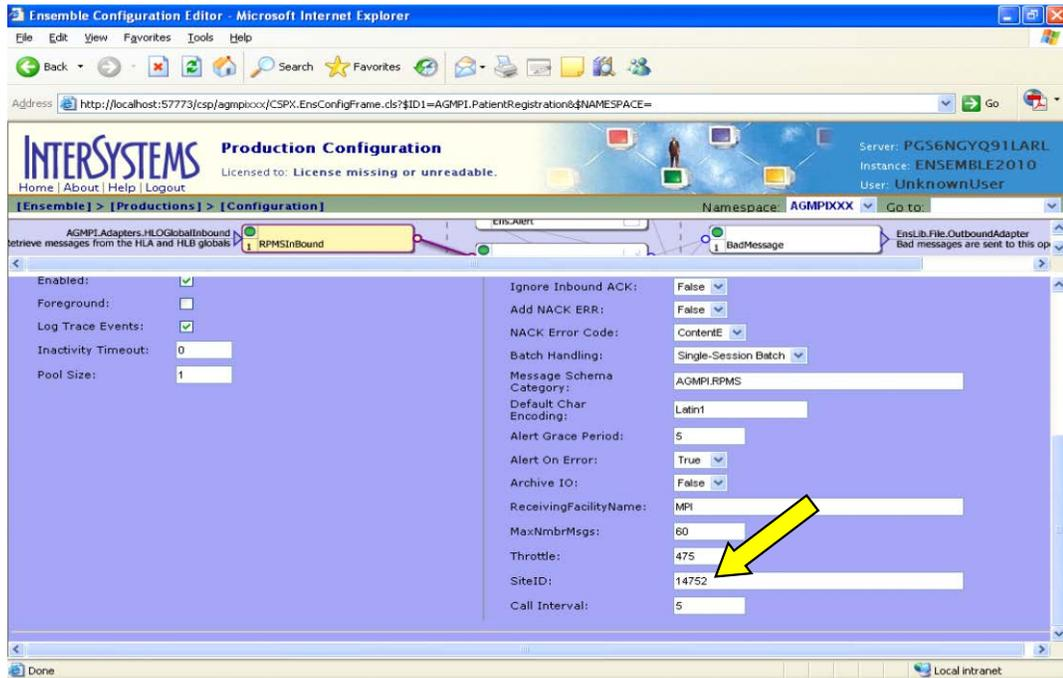

Figure 5-15: RPMSInBound settings
1. Click **RPMSInBound** in the top pane of the **Ensemble Configuration** page to display the RPMSInBound configuration settings in the bottom pane, as shown in Figure 5-15.